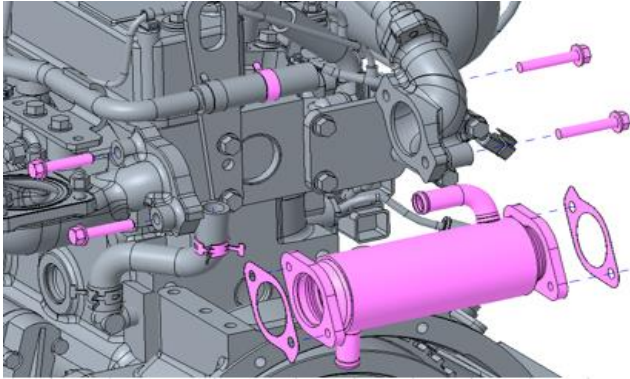

Figure 1
2. Temporarily remove EGR cooler and associated components as shown in the Figure 1 on the next page. It is necessary to retain all hose clamps and hardware to install again after assembling DOC mounting brackets. The gaskets cannot be reused and needs to be ordered - P/N: 129928-13410